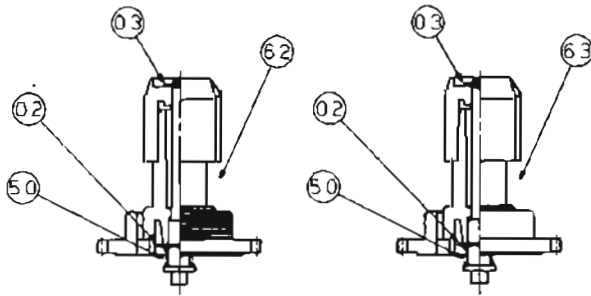

Fig. 3-10
- 1) Disengage the (45) Brake Spring.
- 2) Remove the two (3d) washers, then detach the (18) Loading Lever Block and (67) SU Brake Arm.
3. Reel Assy (SU), Reel Assy (TU), SU Reel Spring (Refer to Fig. 3-10)
- 1) (45) Brake Springを外す。
- 2) (3d) ワッシャ 2ヶを外し、(18) Loading Lever Block、(67) SU Brake Armを外す。
3. Reel Assy (SU), Reel Assy (TU), SU Reel Spring (Fig. 3-10参照)